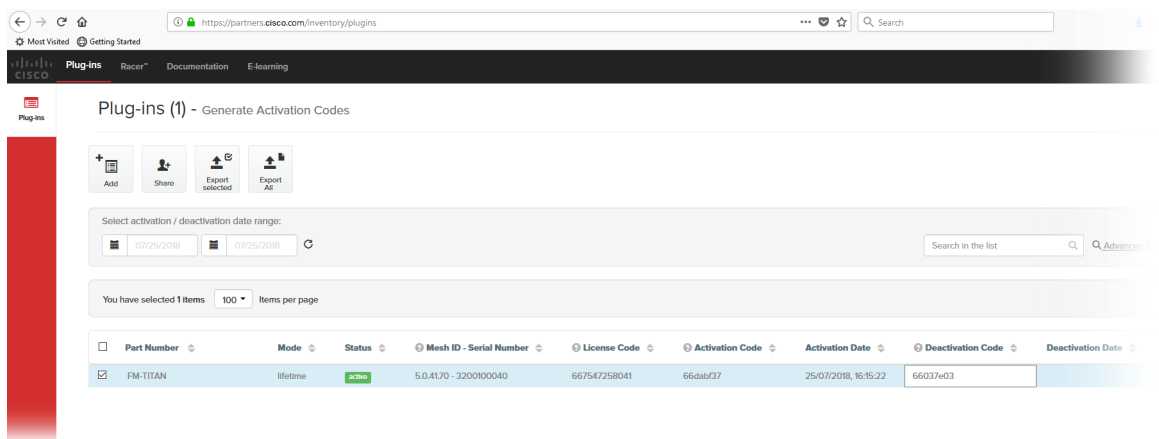

Figure 69. Partner Portal Plug-ins page (deactivation code entry)
8. Enter the Deactivation code for the plug-in in the Deactivation Code field (Figure 69 (page 148)).